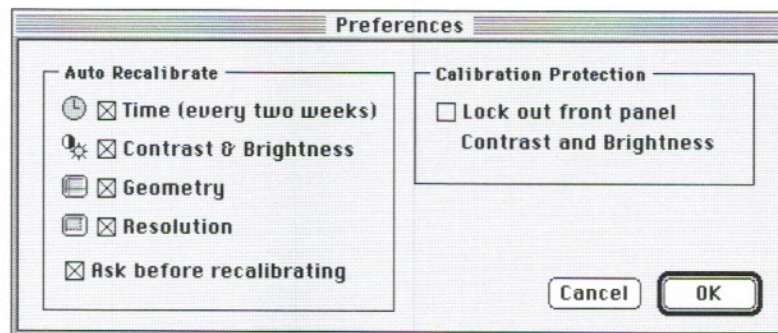

Figure 29. AudioVision Setup Control Panel Recalibration Preferences
3. Click the Preferences button (see Figure 25E). A “Preferences” window appears (see Figure 29).
4. Select the recalibration preferences (see Figure 29).